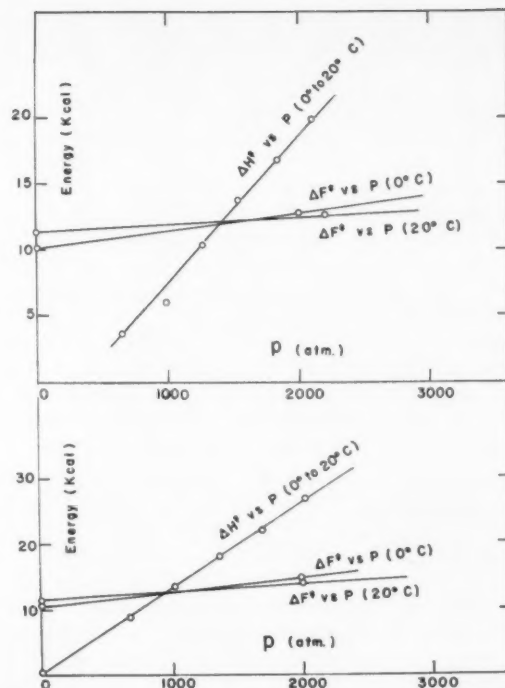

FIG. 12—two separate plots of  $\Delta H^\ddagger$  vs. pressure and  $\Delta F^\ddagger$  vs. pressure for sperm oil (above) and SAE 30 motor oil.
In Figure 12, the values of  $\Delta H^\ddagger$  for sperm oil and for SAE 30 motor oil given in Table II are plotted against  $p$ . The straight lines of  $\Delta F^\ddagger$  versus  $p$  are calculated from equation (9) using the values of  $\Delta F^\ddagger_0$  and  $\Delta V^\ddagger$  given in Table I. One sees that the increase of  $\Delta H^\ddagger$  with pressure is remarkable while that of  $\Delta F^\ddagger$  is much less. That is, the compensation principle13 holds here, but not completely.